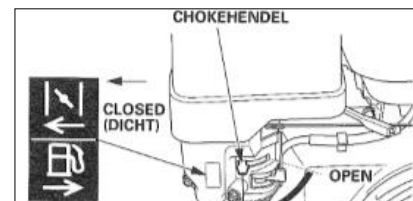

Figure: 27
- Close the choke lever for a cold start (see figure 27). For a restart/warm engine the choke lever may be left in the open position.